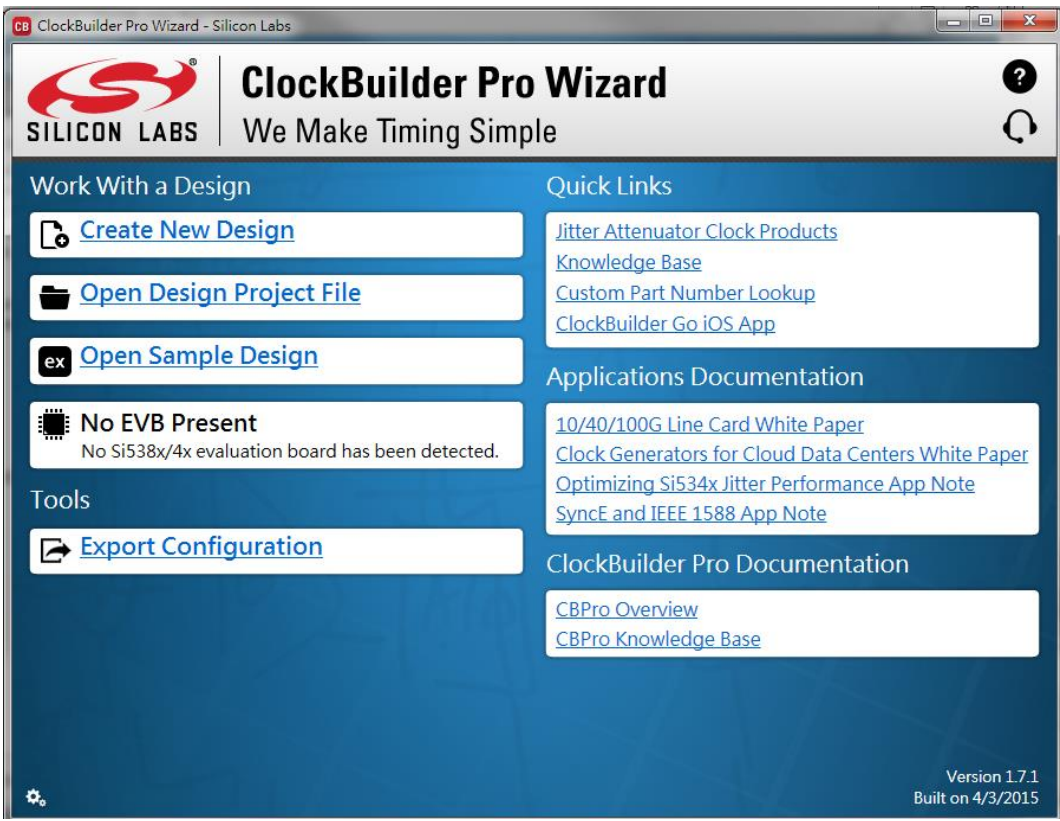

Figure 4-3 ClockBuilder Pro Wizard
1. Firstly, download ClockBuilder Pro Software (See **Figure 4-3**), which is provided by Silicon Labs. This tool can help users to set the Si5340A’s output frequency of each channel through the GUI interface, and it will automatically calculate the Register parameters required for each frequency. The tool download link: